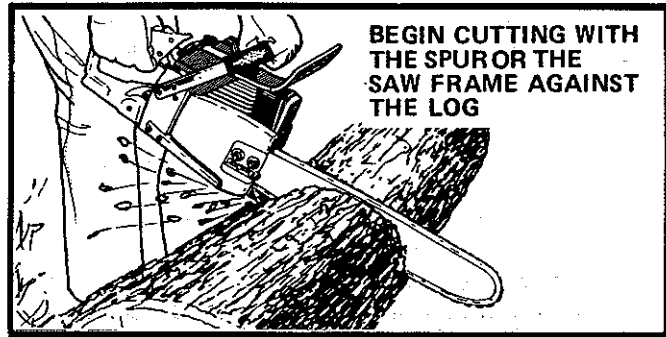

Figure 18
- b. Begin cutting with the saw frame or spur against the wood. Figure 18.